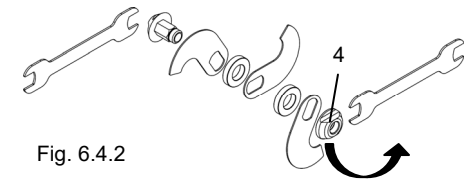

Fig. 6.4.2
- Using two wrenches, unscrew the ring nut "4" (Fig. 6.4.2)